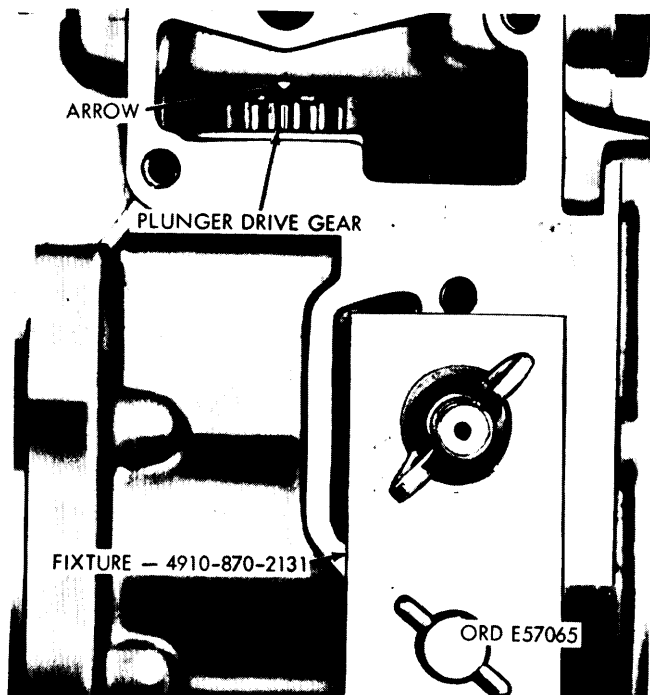

Figure 3-16. Locking camshaft using fixture-4910-870-2131.
b. Refer to figure 3-16. Rotate camshaft until slotted tooth of plunger drive gear aligns with arrow on injection pump housing. Lock camshaft in this position using camshaft fixture.